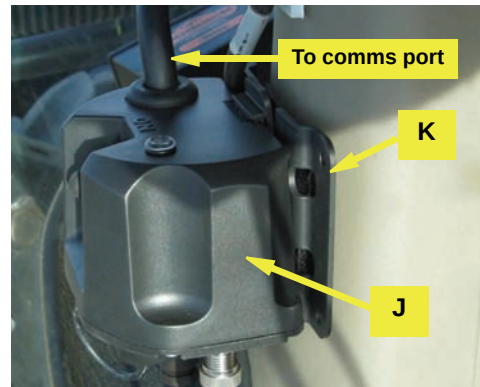
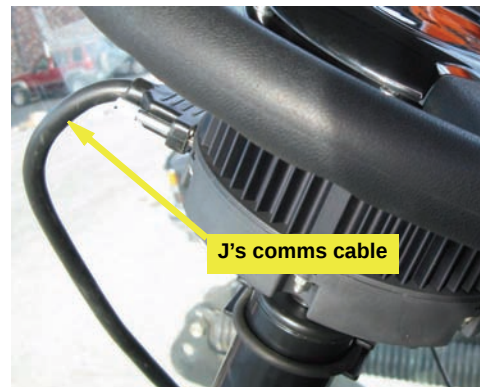

Figure 6b: Mounted junction box bracket and junction box
Figure 6c: Junction box comms cable connected to steering wheel assembly
- b. Mount the electric steer junction box bracket **K** on the steering column or windscreen using your preferred method, for example fasteners, double-sided tape, nylon ties (not provided) (Figure 6b).
- c. Clip the junction box **J** into place on its bracket **K** (Figure 6b) then connect **J**'s 15-pin comms cable connector to the communications port on the steering wheel assembly (Figure 6c). Use clip **N** suitably (not shown).